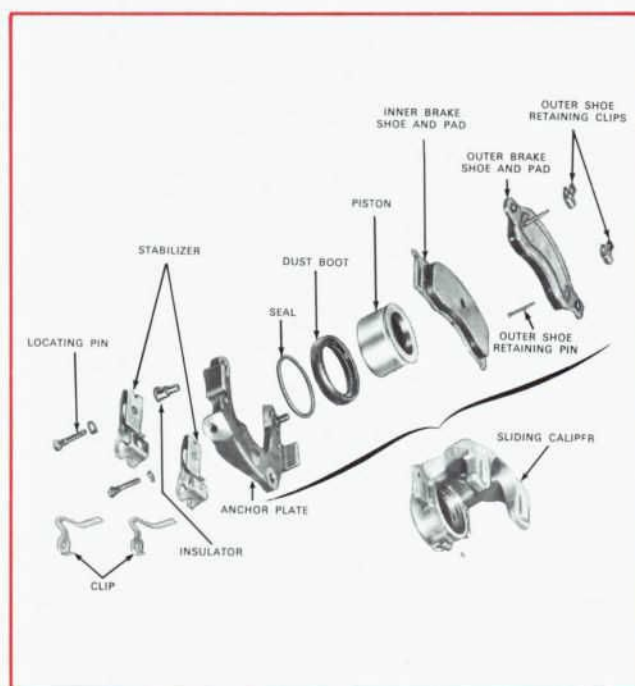

Figure 14 - The floating caliper disc brake disassembled. Note the insulator position to the anchor plate.
9. Remove the caliper locating pin insulators. See Figure 14.